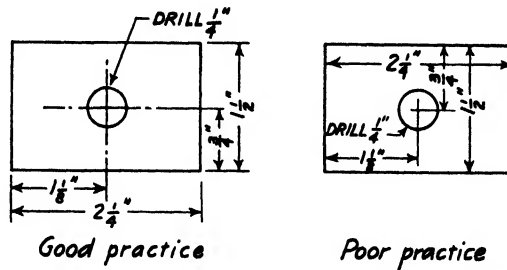

Fig. 2-7. Do not place dimensions on a view unless it would make the drawing clearer.
sions on a view only if this will make the drawing simpler and easier to read (see Fig. 2-7).
13. Show the location of a hole or a circle by dimensioning from its center lines (see Fig. 2-7).